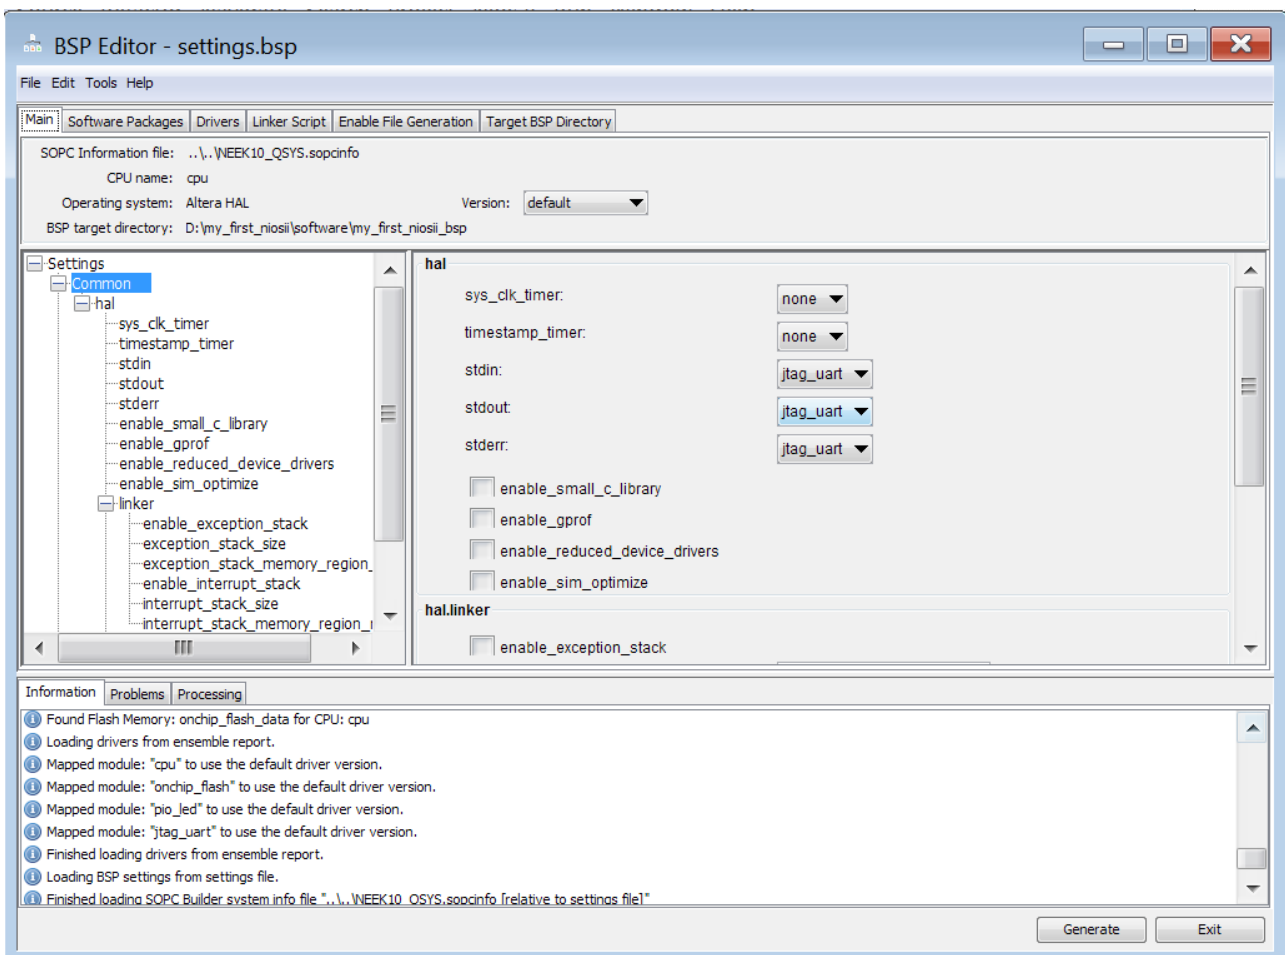

Figure 3-8 Choose BSP Editor
2. Right-click **my_first_niosii_bsp** and choose **Nios II -> BSP Editor**, as shown in **Figure 3-8**.